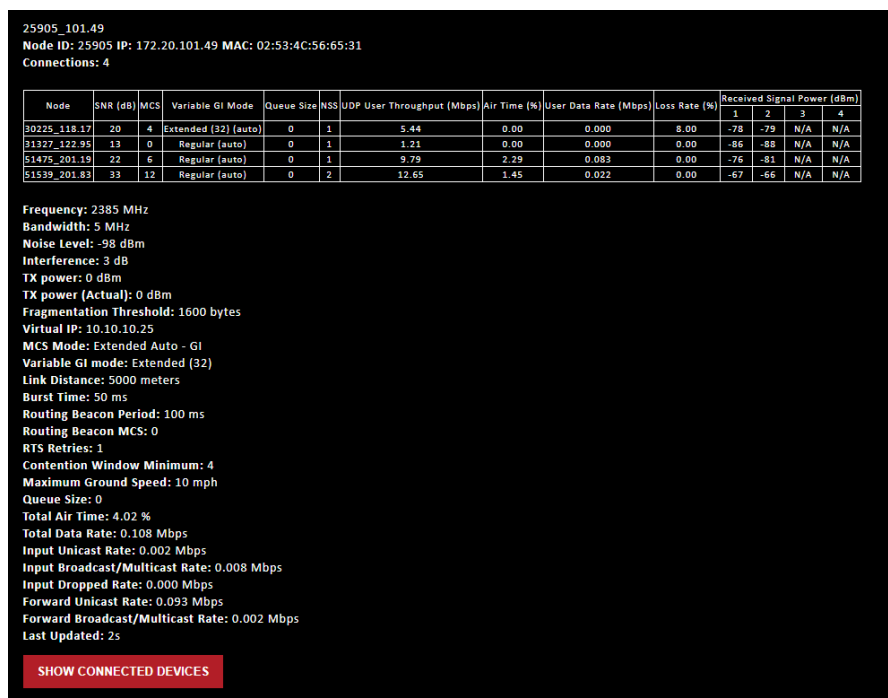

Figure 43 Individual Node Characteristics
- **Individual Node Characteristics** – By double clicking on any node in the network, users can view key operating characteristics of the node. **Figure 43 Individual Node Characteristics** shows an example of this for ‘node25905’. The characteristics shown are: